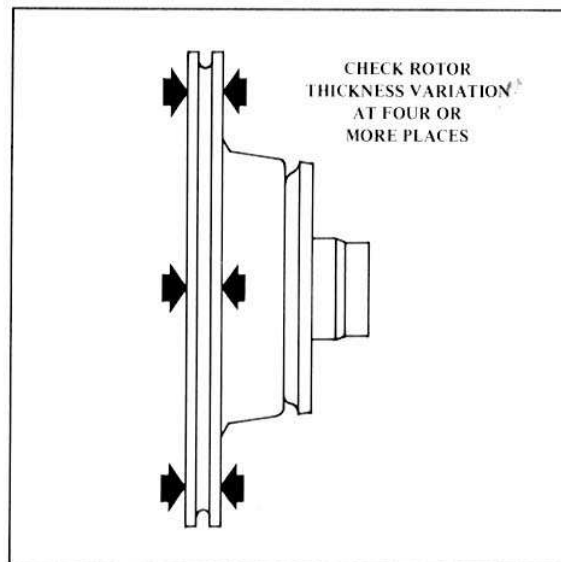

Fig. 43
2. To check parallelism, measure the thickness of the rotor at four or more equally spaced points around the braking surface of the rotor. All measurements must be made at the same distance from the edge of the rotor, preferable at the midpoint between the O.D. and I.D. of the braking surface. (Fig. 43)